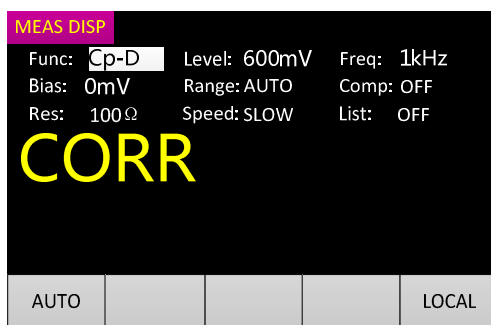

Fig.4-17
Step 1: Press the **CAL** key to enter the correction interface. The interface is as shown in Fig.4-17. If you do not want to perform correction, press the Main parameter function key **AUTO/R /C/L/Z** to exit. In this mode, only the **CAL** key and the Main parameter function key **AUTO/R /C/L/Z** are valid. (Open circuit: OPEN, short circuit, SHORT, neither: ERROR). Connect the test fixture to the gold plated short circuit board (short circuit) or disconnect the outside of the fixture (open circuit).